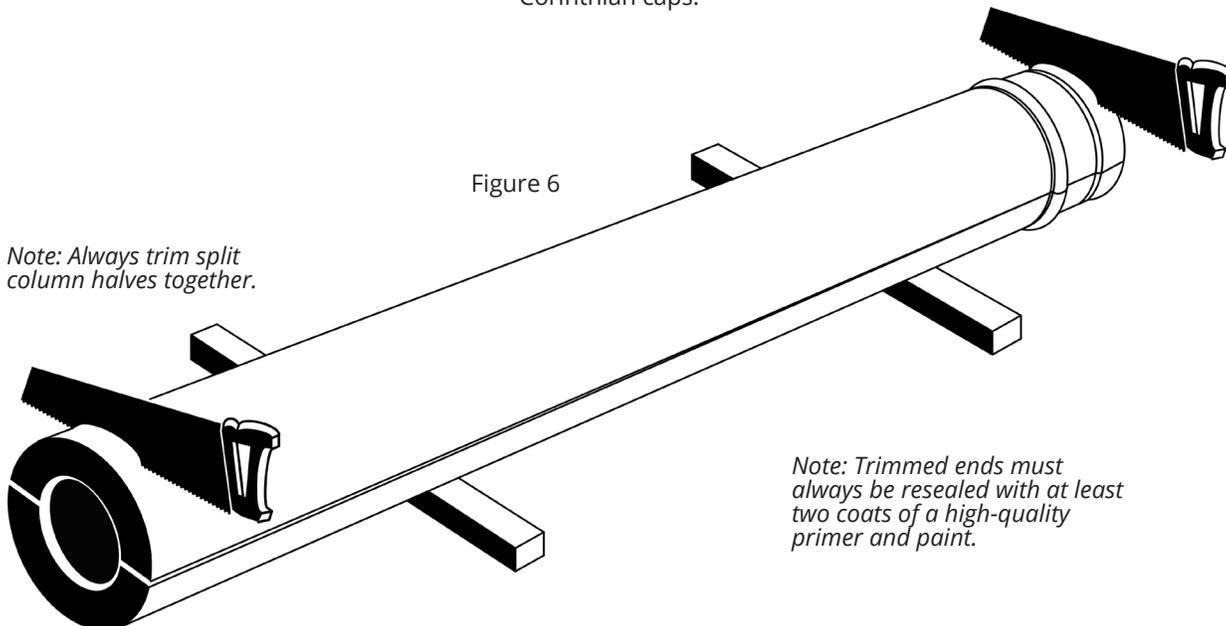

Figure 6
3. Then measure carefully from the top of the trimmed shaft, along with the edge of at least three staves, around the circumference of the shaft to determine the bottom trim line (Fig. 6). Using cardboard or other flexible material, draw a trim line completely around the shaft. By carefully following this procedure, you will ensure that the shaft top and bottom cuts remain square to the centerline of the shaft.